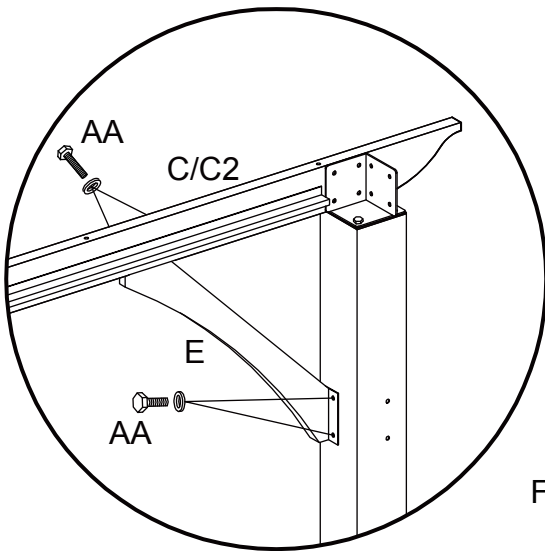

Fig 12.1
- 7.2. Connect the Left Inclined Strut (E) to the Crossbeam Left (C/C2) and the Post (A) with Bolt (AA). See Fig 12.1.